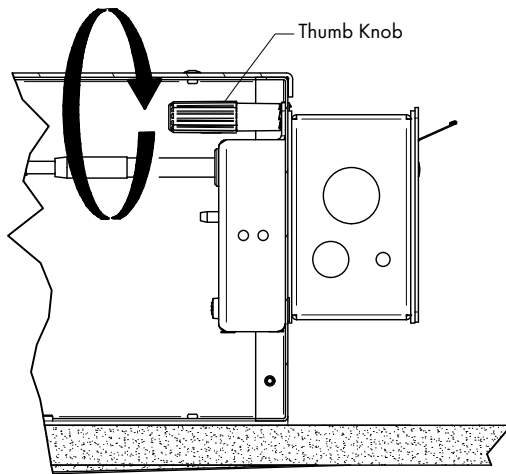

FIG 8.1 Remove Thumb Knob
STEP 1 Unscrew & remove Thumb Knob inside Housing as shown - **FIG 8.1** & **8.2**.